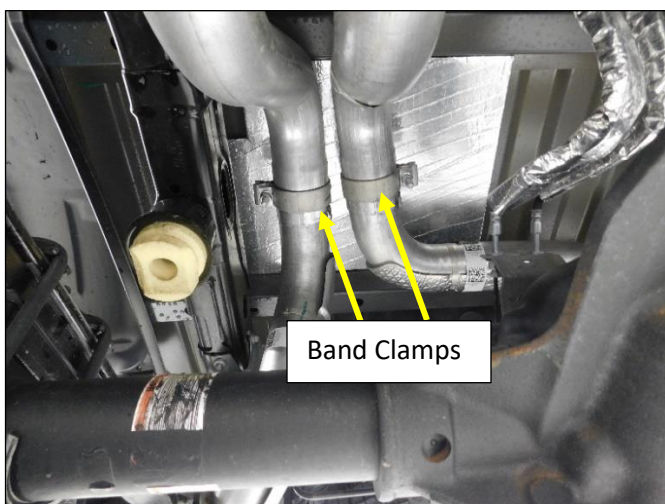

Figure 1
2. Loosen the 15mm nuts on the tailpipe band clamps directly over the rear axle (Non-Hybrid shown **Fig. 1**).